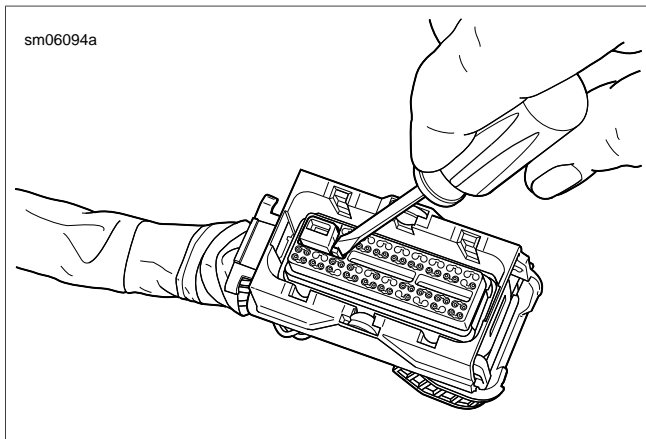

Figure A-27. Remove Ground Secondary Lock
2. See Figure A-27. Using a thin blade screwdriver, gently pry ground terminal retainer from connector housing.